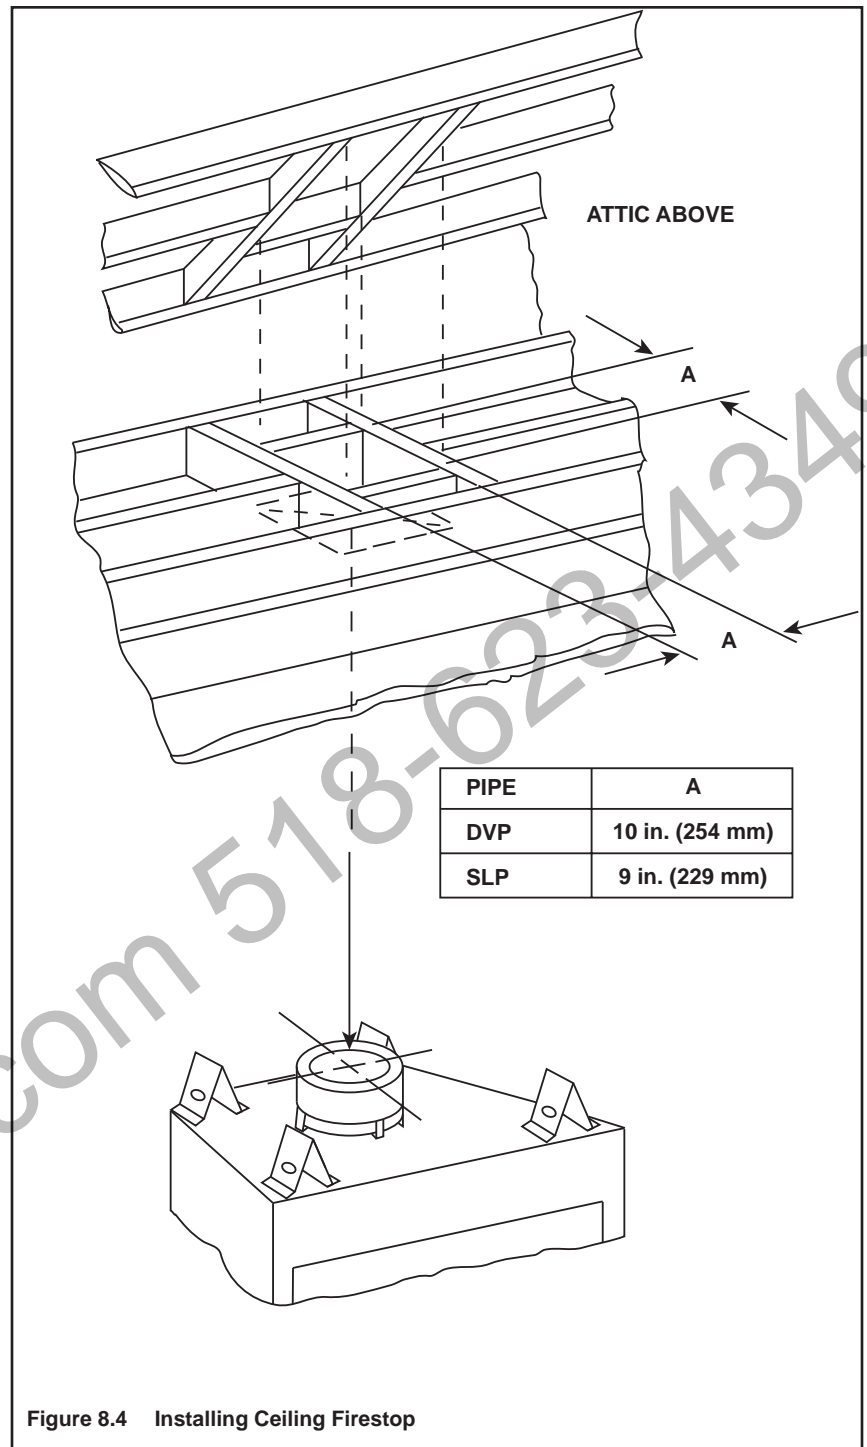

Figure 8.4 Installing Ceiling Firestop
- **DVP pipe only** - Frame an opening 10 in. by 10 in. (254 mm by 254 mm) whenever the vent penetrates a ceiling/floor (see Figure 8.4).
- **SLP pipe only** - Frame opening 9 in. x 9 in. (229 mm x 229 mm) whenever the vent penetrates a ceiling/floor (see Figure 8.4).